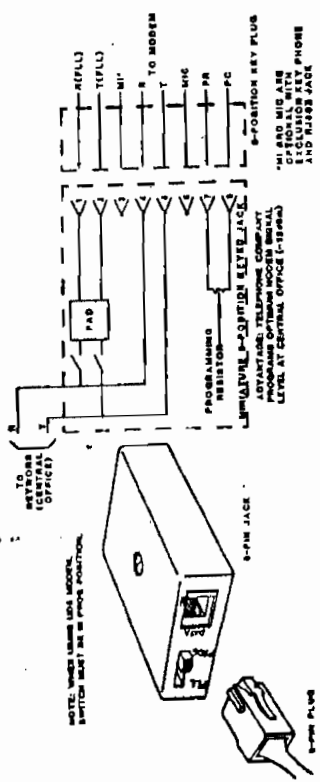

Figure B-2
- Universal RJ41S (see Figure B-2)